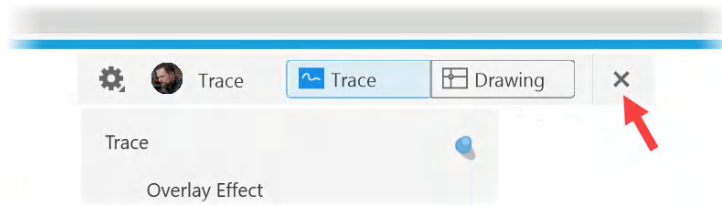

Figure 16.12: The X used to close the Trace toolbar
18. The trace will remain attached to the DWG file, so you can exit trace mode by clicking on the small **X** on the **Trace** toolbar, as shown in *Figure 16.12*.